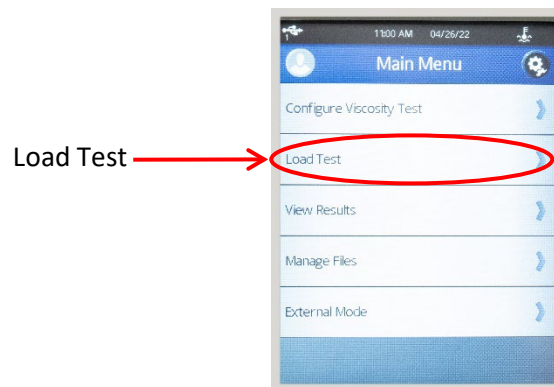

Figure 22: Main Menu
9. From the Main Menu, press the **Load Test** button. See Figure 22.